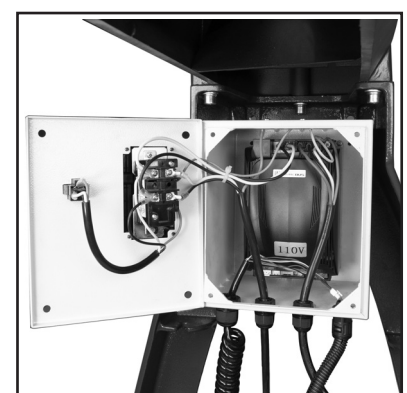

FIG. 24
**NOTE:** The AC Inverter Control Box does not require any programming. It is pre-programmed from the factory. The connections on the inverter should not be changed. Figure 24 shows the inverter with the cover open.